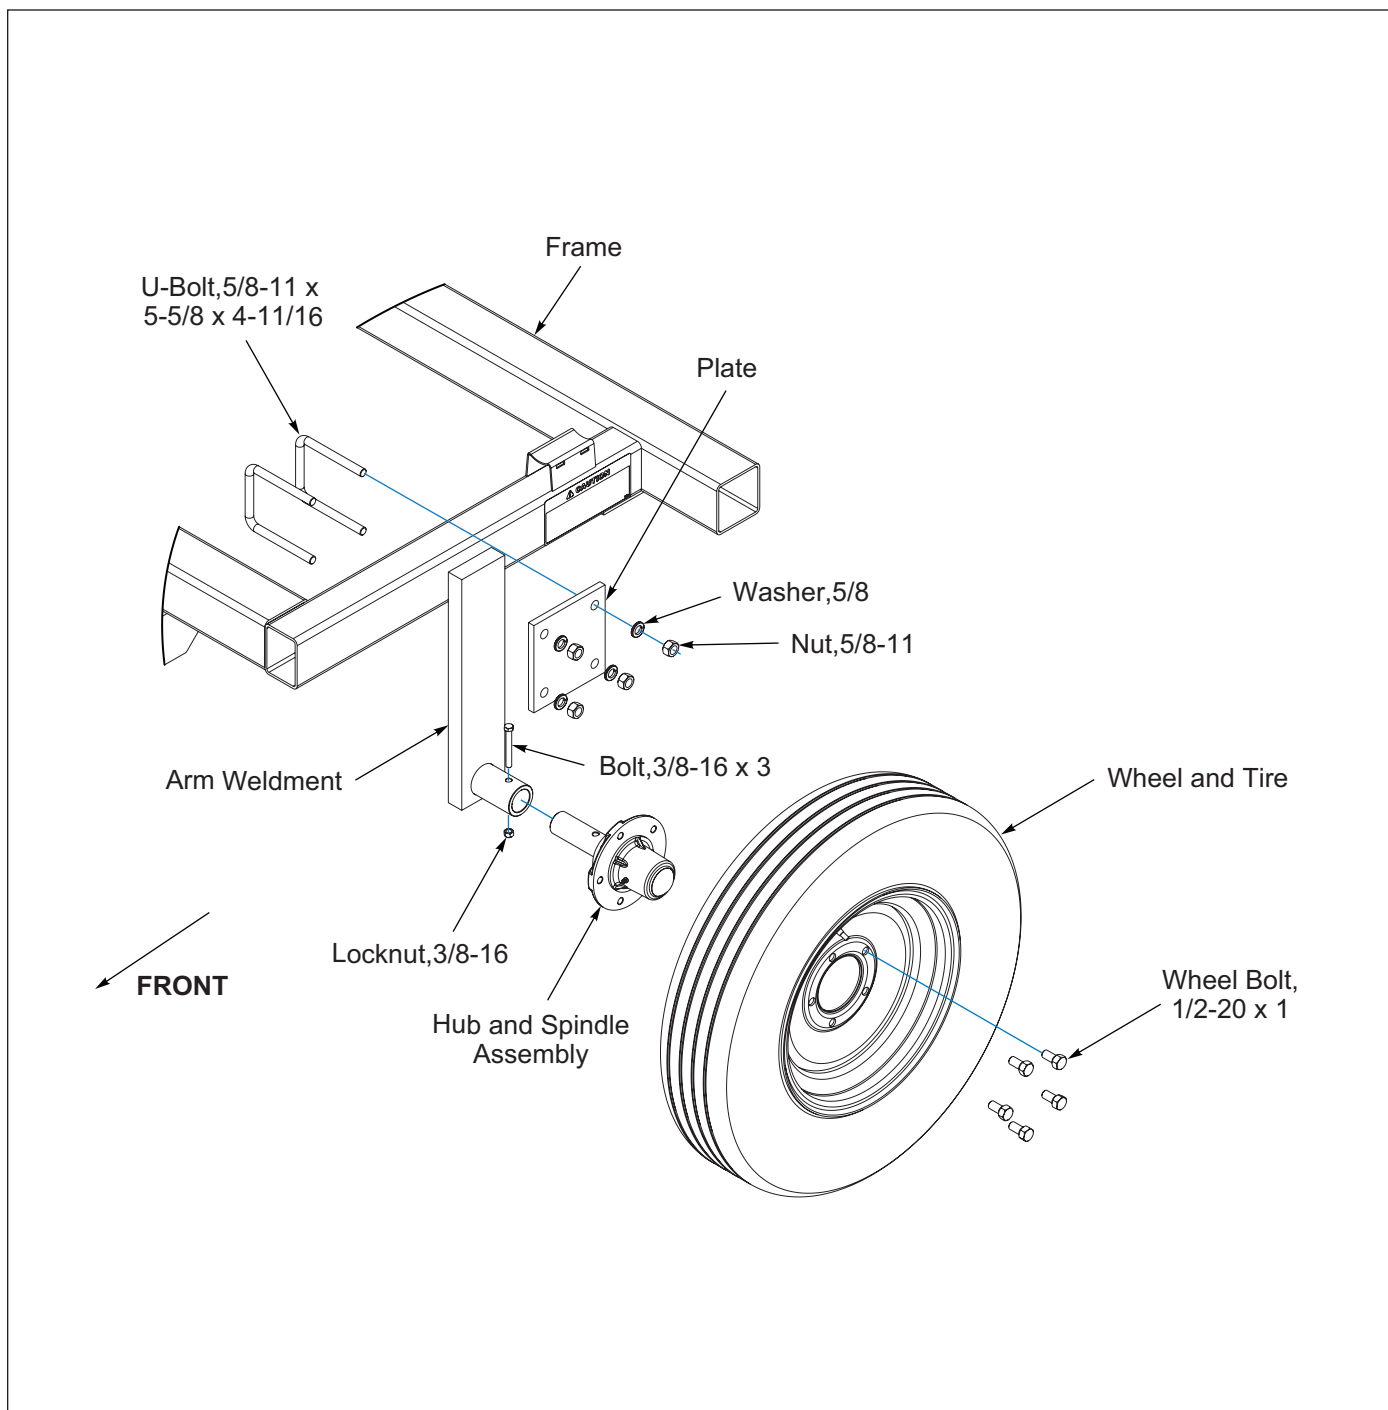

Figure 2-10: Gauge Wheel Installation
3. Clamp the Arm Weldment to the side bar of the Frame with 5/8 U-Bolts, Washer and Nuts. **See Figure 2-10.**